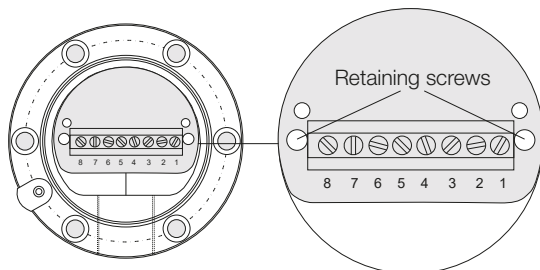

Fig. 4-6: Typical housing with connection terminal assembly, pin assignment
4. Disconnect the 2 electronics module retaining screws (see Fig. 4-6).